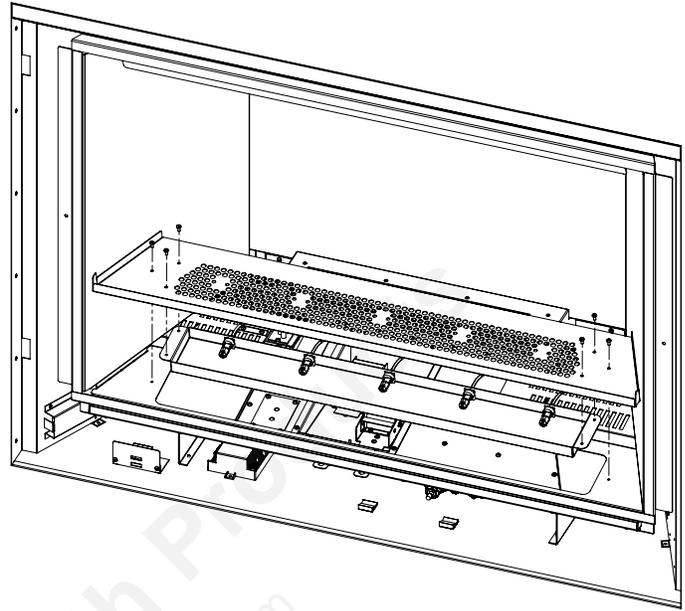

Figure 24. Media Tray Removal
4. Remove media tray by removing the six (6) T-20 screws (see Figure 24).